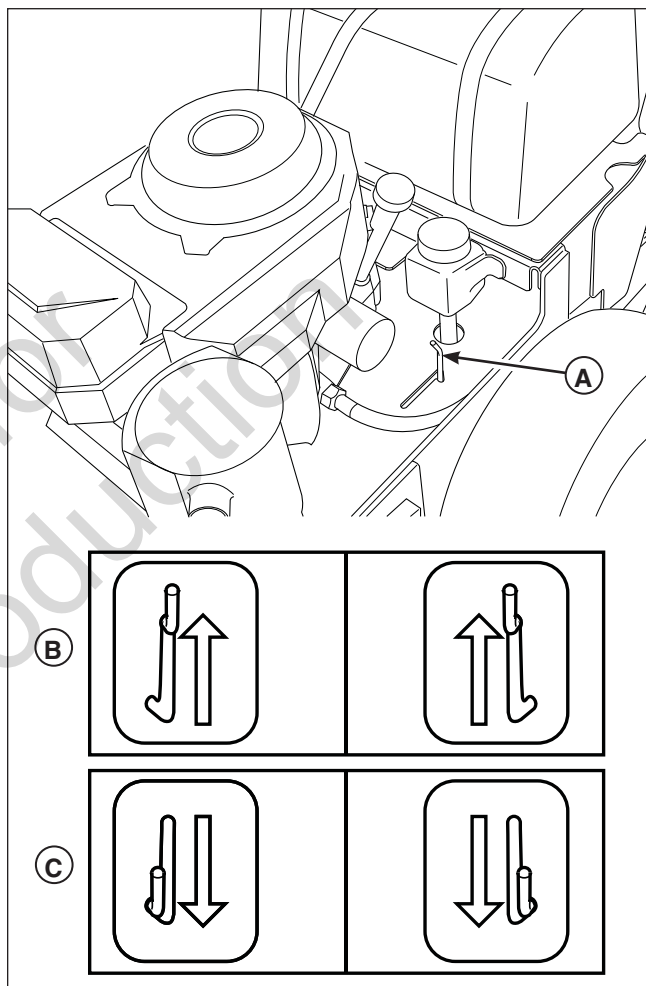

Figure 3. Transmission Release Levers (LH Shown)
2. Locate the transmission release levers (**A, Figure 3**) by the rear wheels of the unit.